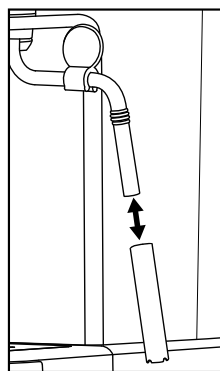

Figure 4
- 5) Pull the casing of the milk frother **10** off (Figure 4) and clean it thoroughly in warm water.
- 7) Push the casing back onto the nozzle (Figure 4).